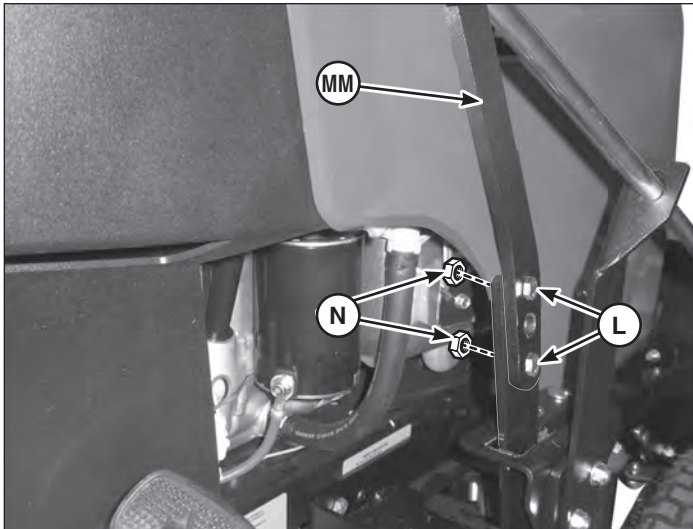

Figure 21
1. Attach handle (**MM**, Figure 21) to lift support assembly and secure with capscrews (**L**) and nuts (**N**).